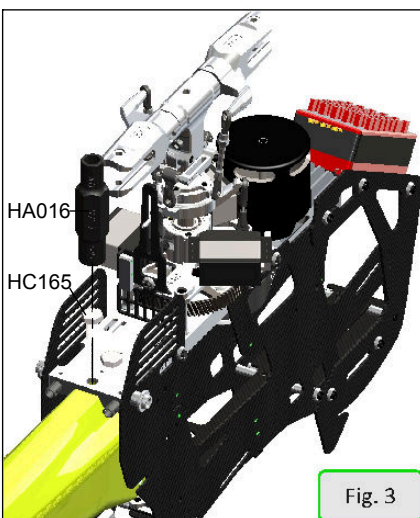

Fig. 3
- *In **figure 3,4,5** you can see the three conditions, ok, too loose and too tight.